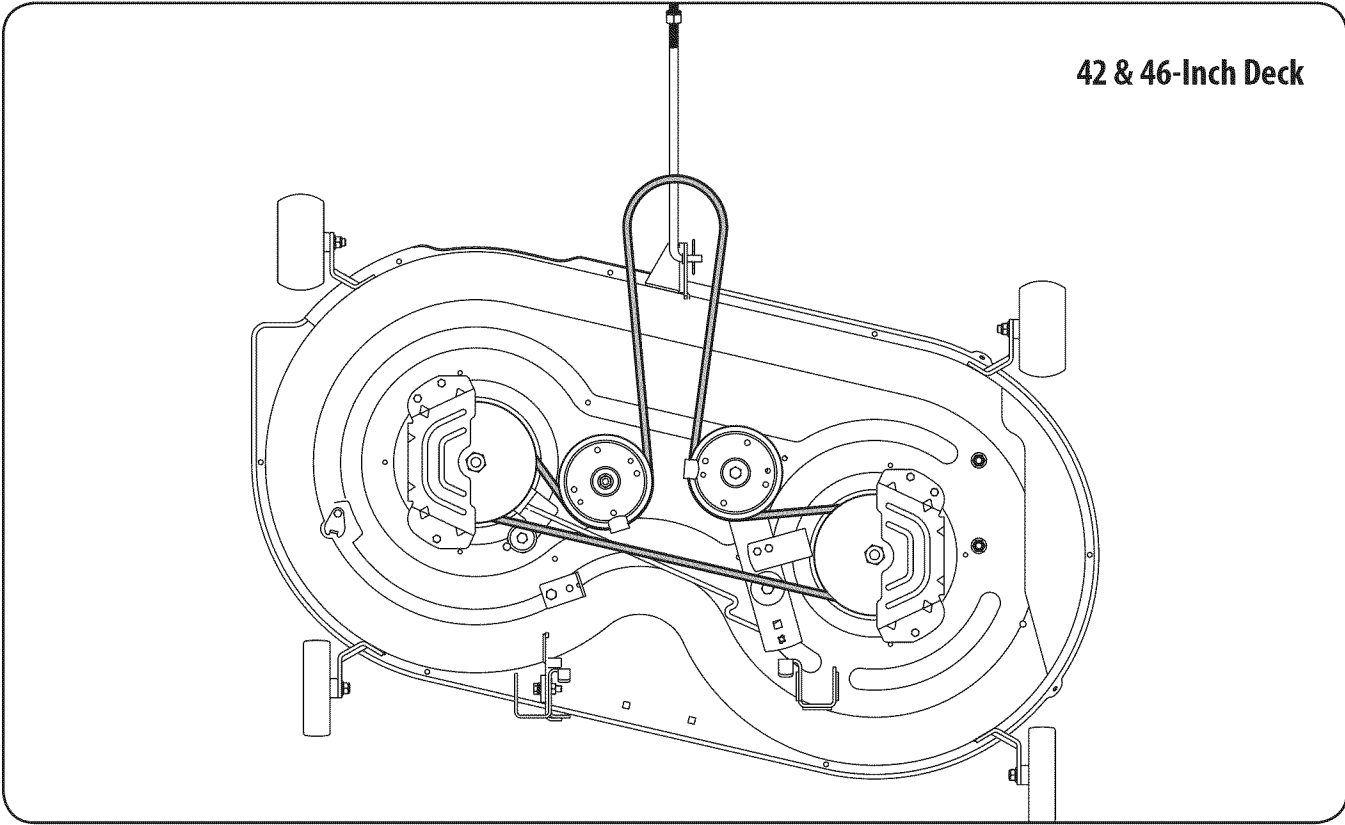

Figure 7-11
9. Re-install the deck, making sure the belt remains routed around the pulleys as instructed. See Figure 7-11.